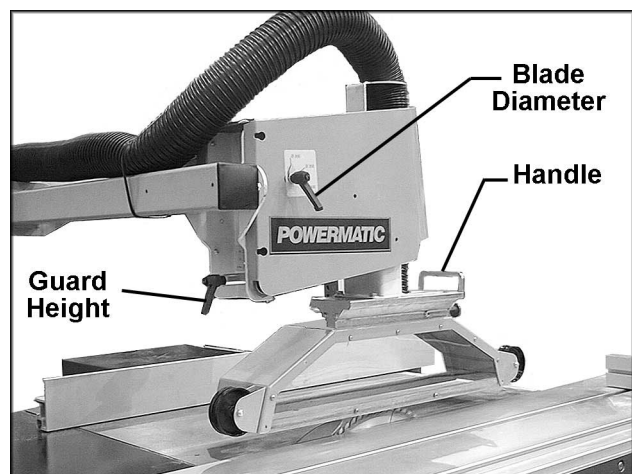

FIGURE 23
1. Lower the guard down to the table, using the handle (Fig. 23).